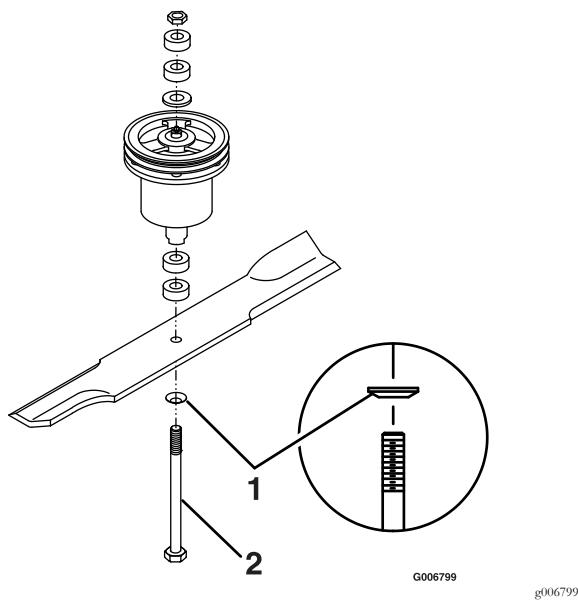

Figure 12
10. Torque bolt to 75–80 ft-lb (102–109 N·m) (see Figure 12).
For 48" Decks: If there is no adjustment left in the turnbuckle and the belt is still loose, the rear idler pulley can be repositioned in the front hole (See Figure 12). The belt guide located next to the pulley must also be repositioned in the front hole when the pulley is moved. The turnbuckle will need to be readjusted.